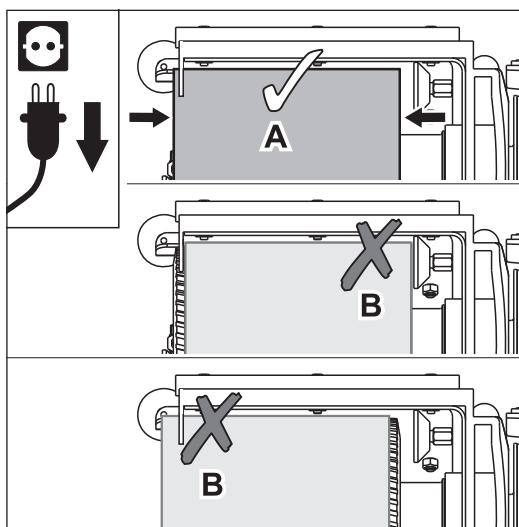

Fig. 11 Position the sanding belt so that it evenly covers the sanding drum (A). Avoid position B without fail (risk of fire)!
- 11 Position the sanding belt so that it evenly covers the sanding drum (Fig. 11, A).
**Position B of the sanding belt in Fig. 11 provoke sparking during sanding! Avoid this without fail!**